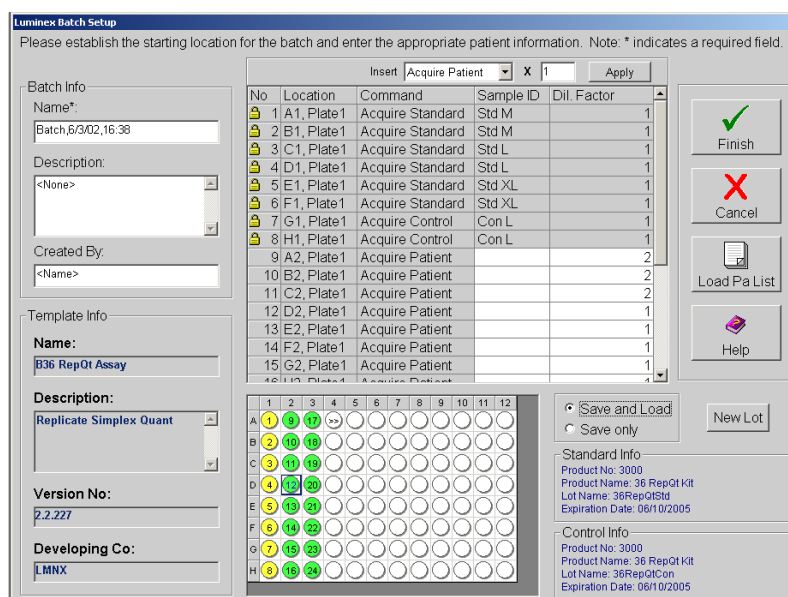

Figure 5-51 Luminex Batch Setup Dialog Box
2. Select a template to create a new batch and click **Select**. The **Luminex Batch Setup** dialog box opens showing the template commands and the microtiter plate representation. For multi-batches the **Luminex Multi-Batch Setup** dialog box opens. See Figure 5-51.